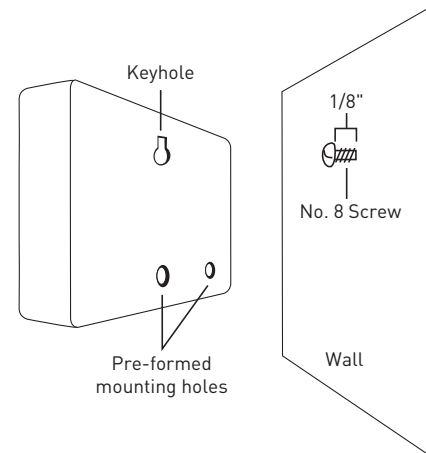

Figure 2: Hang timer on screw using keyhole
- Slip the HRL-100-60W over protruding screw (using keyhole slot in back). See Figure 2.
- Drive a No. 8 screw through one of the two pre-formed holes located in lower back cabinet. See Figure 2.